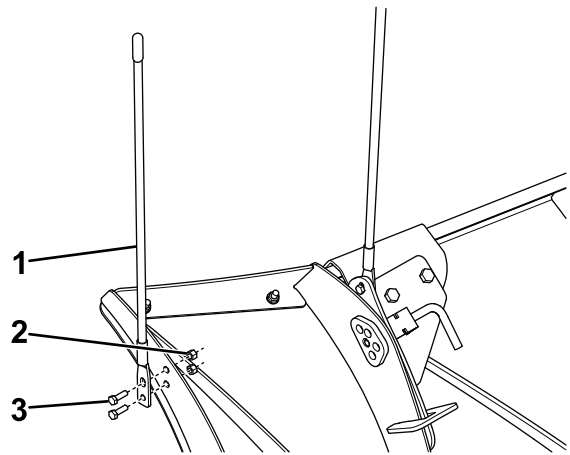

Figure 8
- Attach a plow blade guide to the plow wing using 2 bolts (5/16 inch) and locknuts (Figure 8), and torque the bolts to 19 N·m (14 ft·lb).